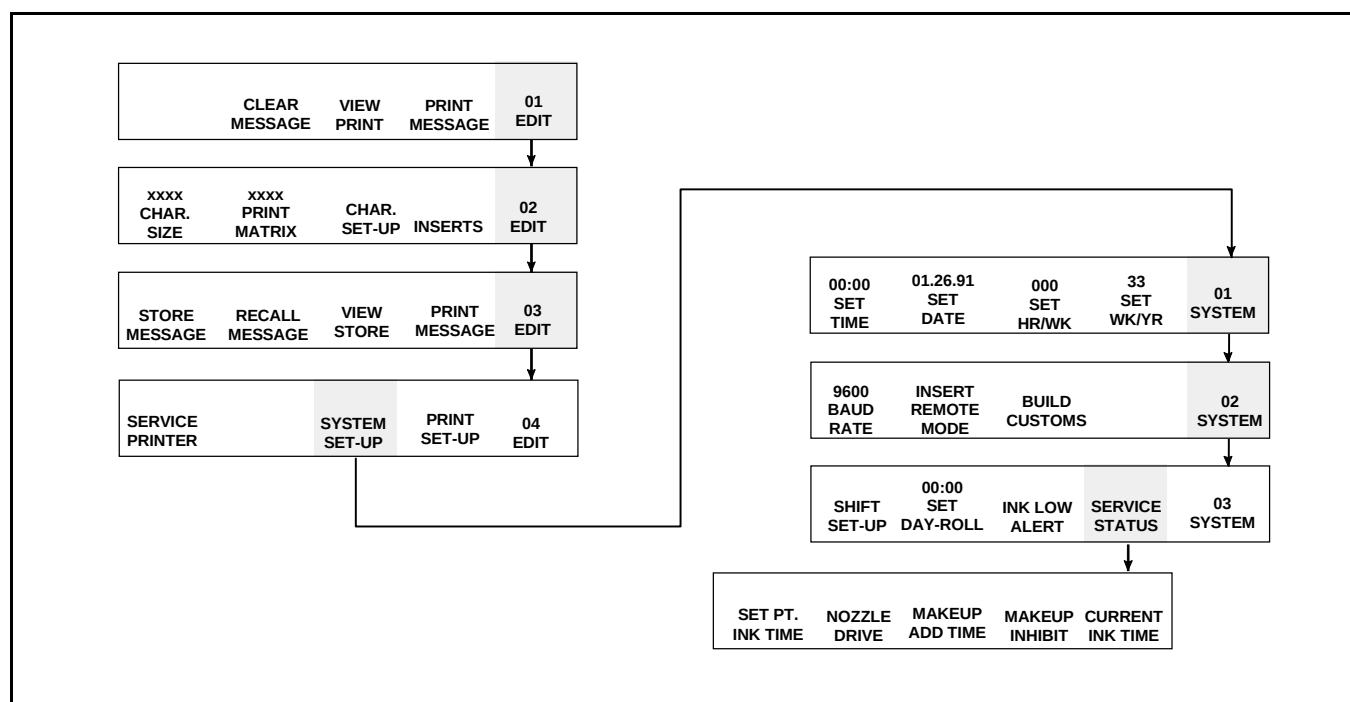

Figure 7-18. Accessing Frame <CURRENT INK TIME>
1. Begin in Frame <03 SYSTEM>. Refer to Figure 7-18.